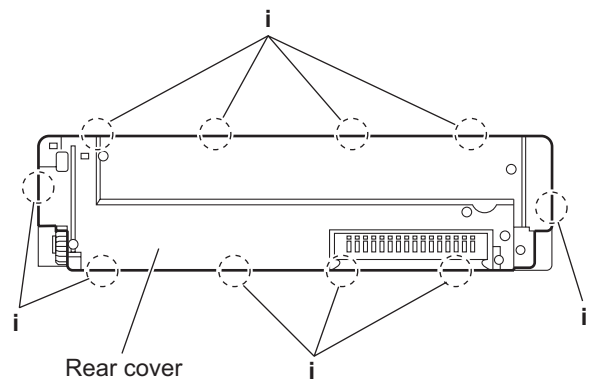

Fig.13
- Release the ten joints **i** attaching the rear cover to the front panel assembly. (See Fig.13.)